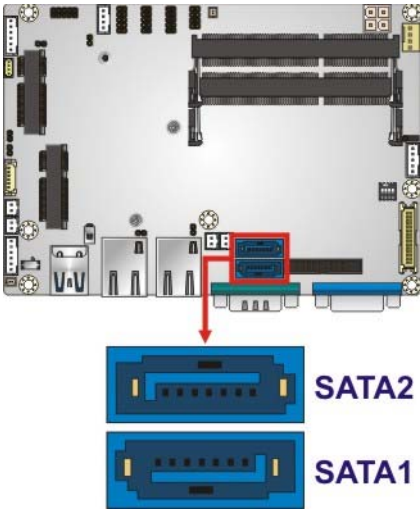

Figure 3-21: SATA 6Gb/s Connector Locations
- CN Location:** See Figure 3-21